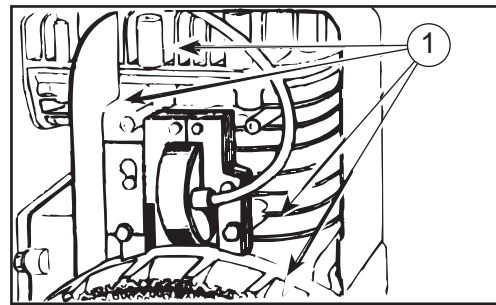

FIGURE D.4 - CLEAN COOLING SYSTEM
**CLEAN COOLING SYSTEM:** See Figure D.4. Clean the internal cooling fins and surfaces to prevent overspeeding, overheating, and engine damage. Clean every 100 operating hours or as often as necessary.